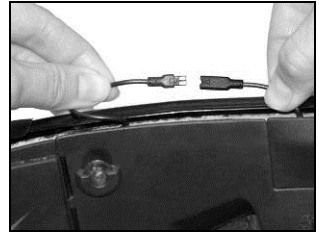

Fig. 18
- Hook up the microphone to the connector coming out of the e-Box (Fig. 18).